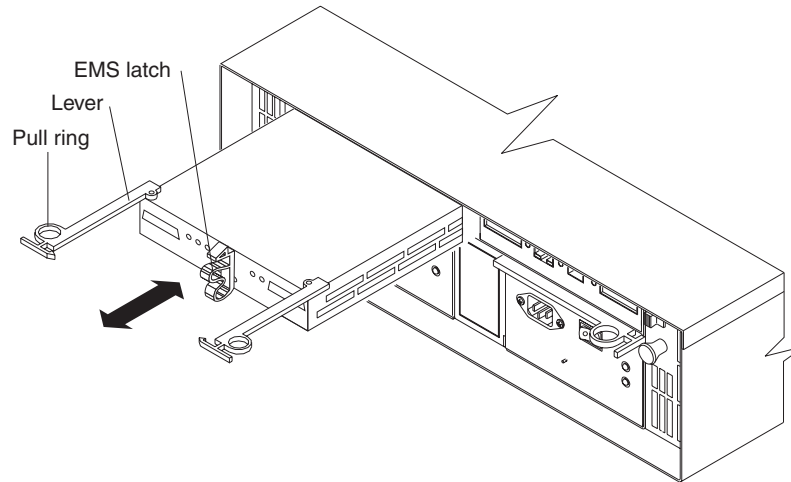

Figure 7. Removing an ESM
2. Grasp the pull rings and pull out on the levers; then, remove the ESM from the bay as shown in Figure 7.